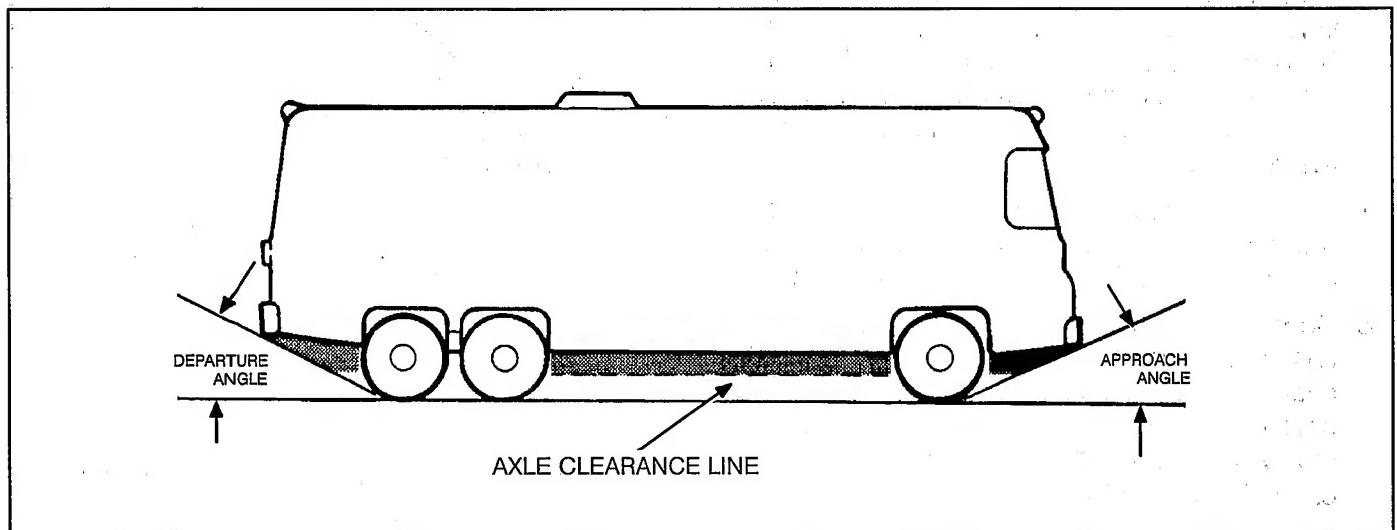

FIGURE 10. APPROACH AND DEPARTURE ANGLES AND AXLE CLEARANCE LINE
**WARNING EXHAUST GAS IS DEADLY!** Keep exhaust gases from entering the vehicle. Do not terminate the exhaust tailpipe underneath the vehicle or closer than specified to openings into the vehicle (Figure 9) or route it such that it is likely to be damaged (Figure 10). Use approved materials and parts only.
12. Route the tailpipe such that it will not likely be struck when the vehicle is moving. At least keep it out of the approach and departure angles of the vehicle and above the axle clearance line (Figure 10).
13. The exhaust back pressure under full load must not exceed 2 inches (51 mm) water column (WC) as measured within 6 inches (153 mm) of the muffler outlet flange.